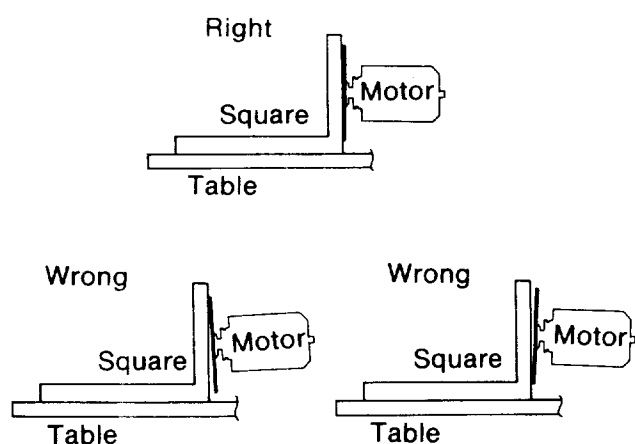

Fig. 108
7. **If** the square is flush with the *blade* after each rotation, no change is needed. (Figure 108) Go to the next section, **or**
If there is a gap between the square and the *blade* after any rotation (Figure 108), go to step 8. **Note:** Saw blades are manufactured to different specifications. Therefore a small gap is permissible on some brands.